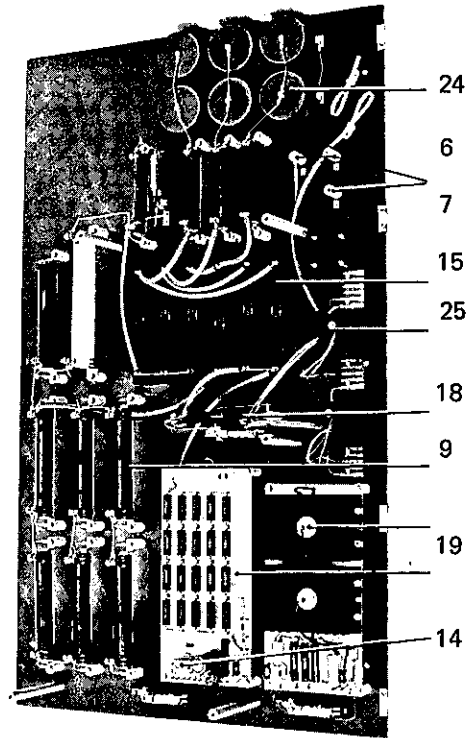
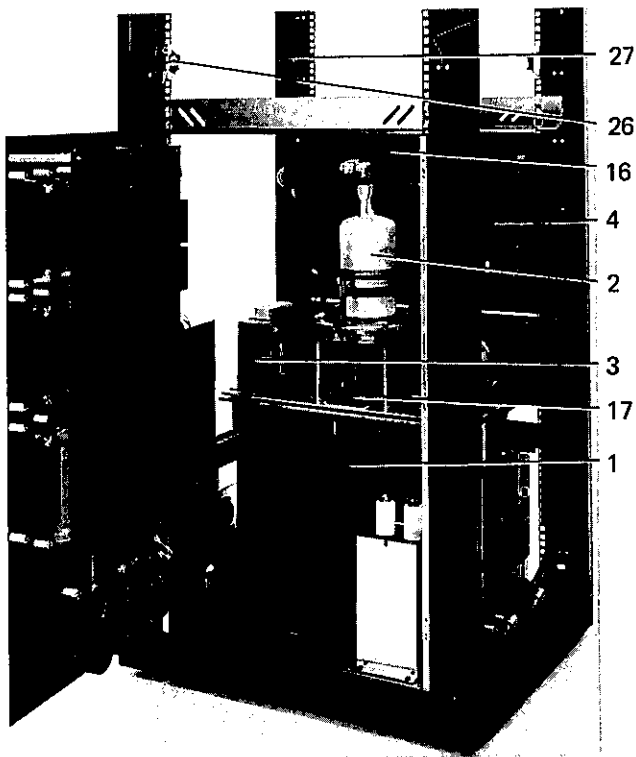

Fig. 5 High voltage plate EHV 110 A, U 2
Fig. 4 Rear view EHV 110 U 2
The high voltage is measured by the measuring and regulating voltage divider E4 (Fig. 5, Item 6) and conducted to the high voltage regulator E1 (Figs. 4 + 8, Item 4) and to the high voltage measuring instrument (see the adjustment potentiometer R 23).
The cathode bias voltage unit E3 (Fig. 5, item 7) produces the cathode bias voltage (+ 54 volts relative to the grid), the signals for current limitation (R2/R3) and for excess current cutout R 1. The signal for current limitation (1.45 ÷ 1.55 A)